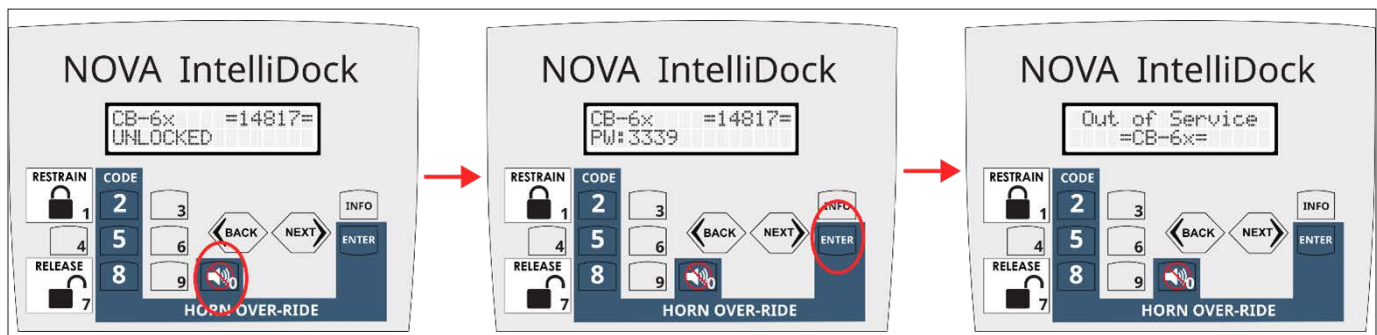

FIGURE 13.1—SEQUENCE TO ENTER “OUT OF SERVICE” MODE
- Figure 13.1 shows the screen that should appear on the control box display.